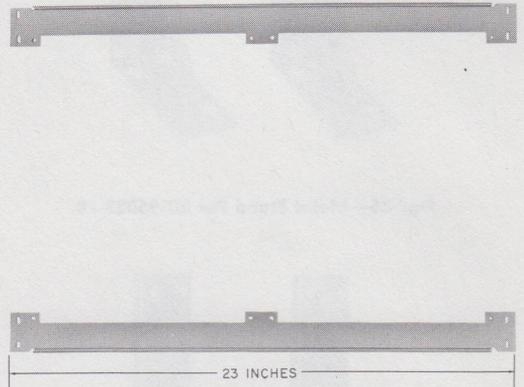

Fig. 40—P-35C873 Mounting Bar
6.04 The P-35C873 mounting bar (Fig. 40) has two bars needed to mount one or two P-13C113 frame assemblies (31A apparatus mounting less welded hinge and fastener details) on a 23-inch wire relay rack. It is furnished with four P-353446 RHM screws.